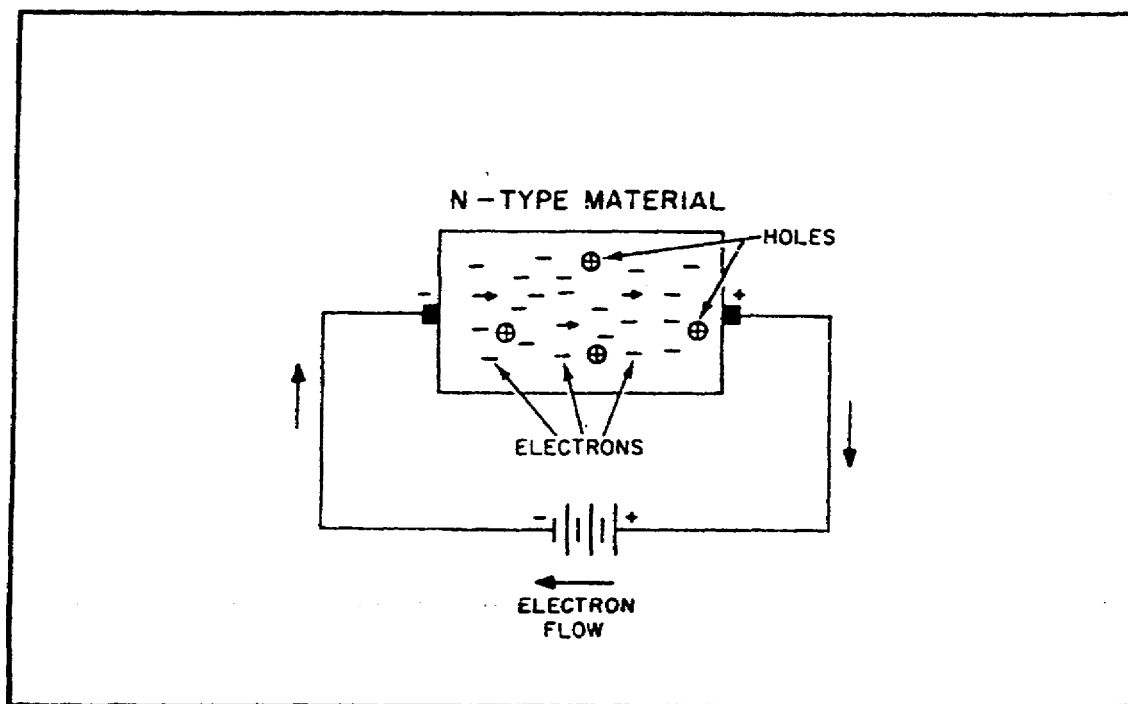

FIGURE 79. CURRENT FLOW IN THE N-TYPE MATERIAL.
(1) *Current Flow in the N-Type Material.* Current flow in an N-type material is similar to conduction in a copper wire. That is, with voltage applied across the material, electrons will move through the crystal toward the positive terminal just as current flows in a copper wire (figure 79 on the following page).